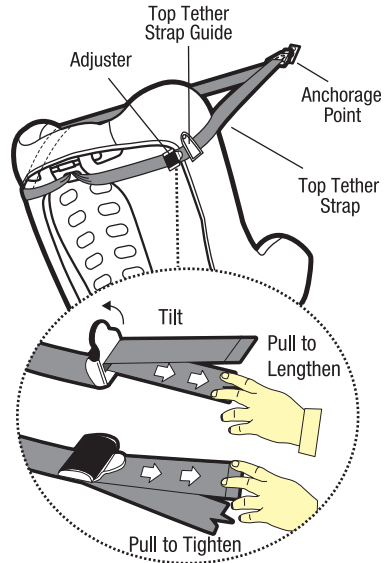

Figure 12
Step 11: Pull to tighten to remove all the slack, from the upper anchorage strap. Do not overtighten as this could cause the restraint to lift off the vehicle seat (refer to Figure 12).